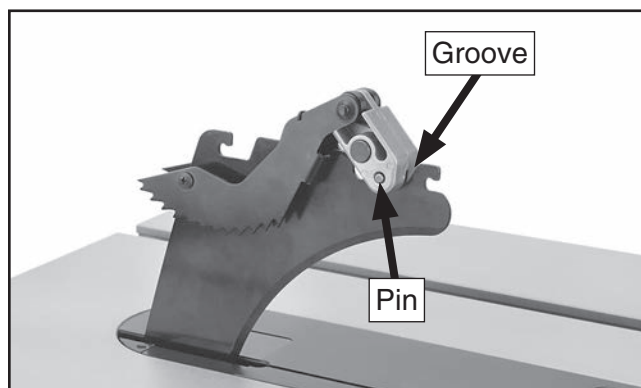

Figure 68. Re-installing pawls.
2. Slide the pin in the pawl block into the second groove from the front of the spreader, as shown in **Figure 68**.